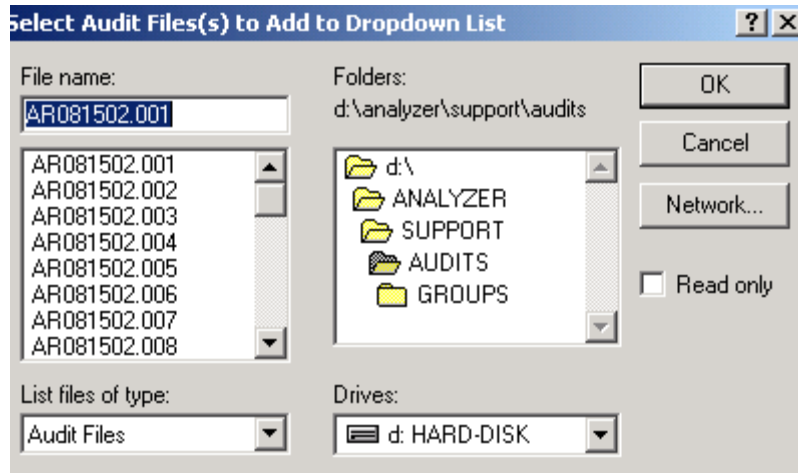

fig.3
- 1) Double click on the word “audit file” located at the upper right hand corner of the screen. “Select audit files to add to dropdown list” will appear.(see fig.3).
- 1) Double click on the word "audit file" located at the upper right corner of the screen. A box will appear titled "select audit files to add to dropdown list" (see fig.3).